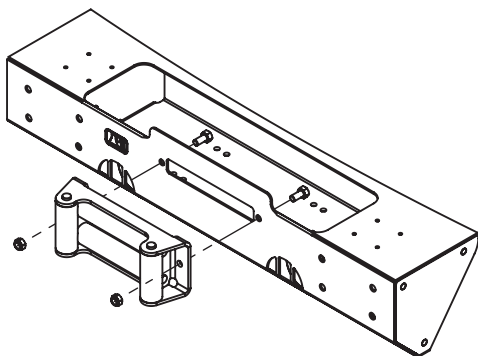
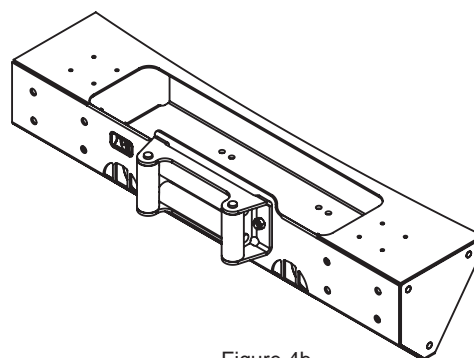

Figure 4a
Figure 4b
4. Install Fairlead (not included) to Bumper. Note - bolts for Fairlead (supplied with it) should pass from inside the Winch cavity, with the nut being installed on the outside (Figure 4a). Tighten Fairlead bolts (Figure 4b).